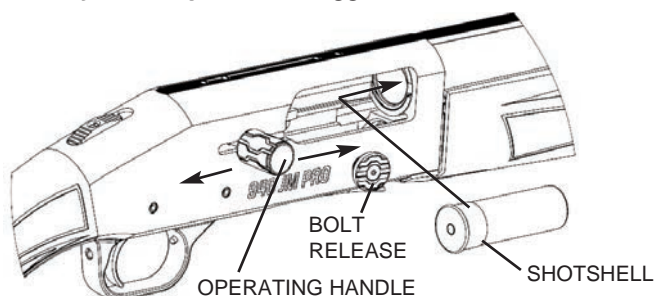
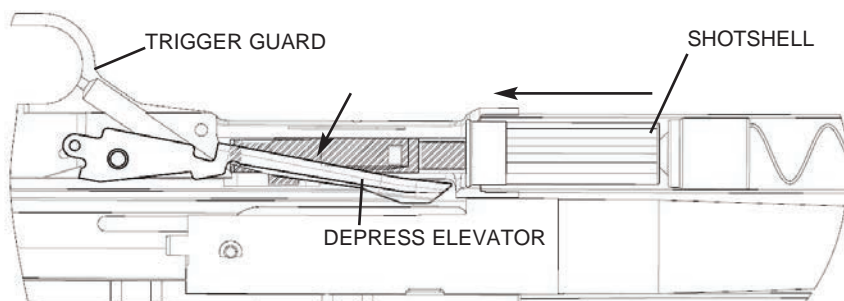

Figure 5
Figure 8
1. Open the action by pulling the operating handle completely rearward until it locks in the open position (Figure 5).
2. Load the first shotshell through the ejection port located on the right side of the receiver. The shotshell can be inserted directly into the chamber or placed on top of the elevator (Figure 5).
3. With the safety button fully rearward in the "ON" (SAFE) position, and the muzzle pointed in a safe direction, press the bolt release until the action releases (Figure 5).
1. First, remove the shotshells from the magazine tube. With the safety button fully rearward in the “ON” (SAFE) position, turn the firearm so that the trigger guard is facing upward (Figure 8), keeping the muzzle pointed in a safe direction.
3. While holding the elevator down with your thumb (Figure 8), press and release the bolt release (Figure 5). This will release one shotshell from the magazine tube under spring pressure.